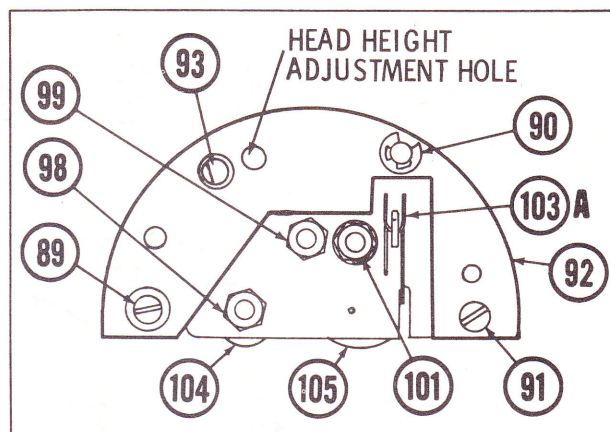
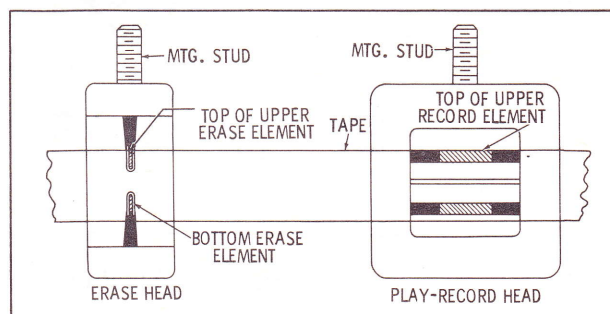

Fig. 18. 4-Track Head Assembly
Fig. 19. Head Height Location
2. Turn the head track selector knob to "A" position (furthest position up). Remove head cover (6) and track selector knob (88).
3. Turn Function knob to Play. Place a finger on roll pin in record pressure pad (113), and pull back pressure pads. Tape should move smoothly past the heads.
4. Use a #2 Bristol wrench and adjust the record head height through the head height adjusting hole (See Fig. 18). Adjustment screw is 3/4" below hole.
5. Adjust record head height until top of upper element is exactly even with the tape as shown in Fig. 19.
2. Turn erase head mounting nut (98, Fig. 18) so that the top of the upper erase element is even with the upper edge of the tape (Fig. 19). Use "Lock-tite" cement to secure nut (98).
2. Turn the head track selector knob to the "2 Track" position. Remove head cover (6) and track selector knob (88).
3. Turn Function knob to Play. Adjust record head azimuth nut (99, See Fig. 18) for maximum output.